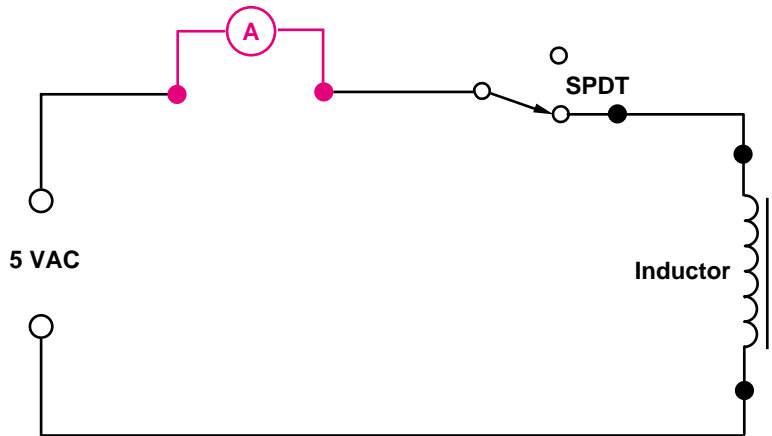

Figure 15
- ❑ 28. Remove the leads of the DMM from the circuit. Replace the jumper wires with the leads from the DMM. Move the other end of the leads from the volts/ohms terminals to the current input terminals of the DMM. See Figure 15.